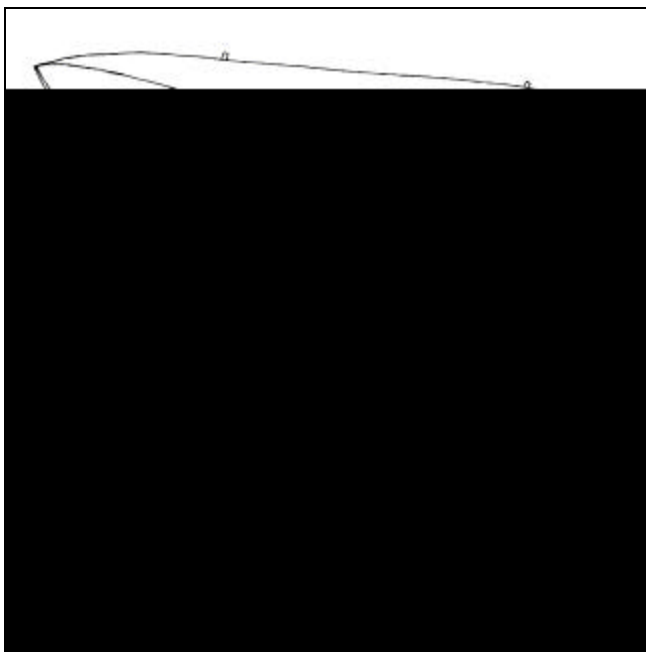

Figure 7.
Step 1.) After inspecting and assembling the Flight Concepts International Reserve canopy and the harness/container system, lay the canopy out on a smooth clean floor on its left side. (See Figure 7.) The harness must be placed facing down, with the top toward canopy. Clear all seven cells at the leading edge (nose) of the canopy. Insure that the top mid-seams of each of the cells are even with one another and lying flat from nose to tail.